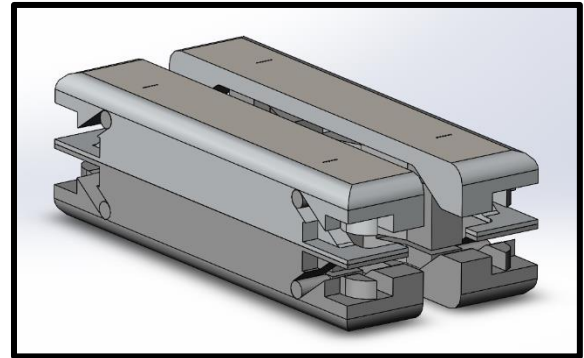
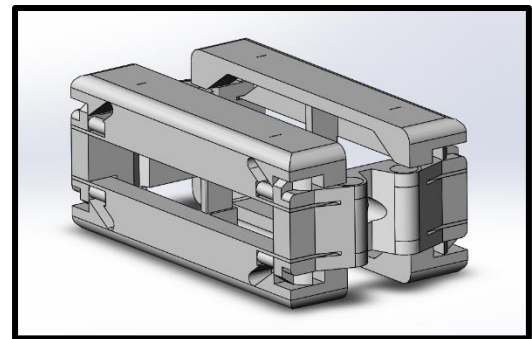
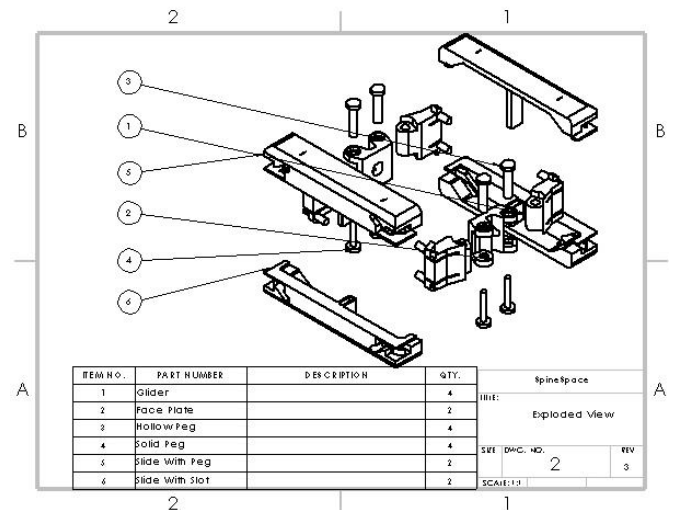

Figure 1. Collapsed SpineLock
Figure 2. Fully Expanded SpineLock
Figure 3. Bill of Materials
The cage is made of titanium, Ti-6Al-4V specifically. It is supplied sterile and fully assembled. It will come in its unexpanded form, as seen in Figure 1. Once the SpineLock is inserted into the intervertebral disc space, it is expanded with the associated applicator. Figure 2 demonstrates the fully expanded device.
SpineLock is the fully assembled cage that will be inserted into the disc space (Figure 3). The top shell corners (Part 6) and bottom shell corners (Part 7) act as the points of contact with the surrounding vertebrae and the main structures of support. Within the shells are two multi-hinge joints composed of the face plate (Part 1), two corners (Part 2) and two pegged plates (3). These are held together by the dowels and dowel caps (Parts 5 and 4). These function as the main expansion mechanism alongside the slots within each shell. When collapsed, the face plates are at maximum distance apart (Figure 1). As the device expands, the face plates get farther from each other and all other parts shift until both joints are parallel to one another as seen in Figure 2.